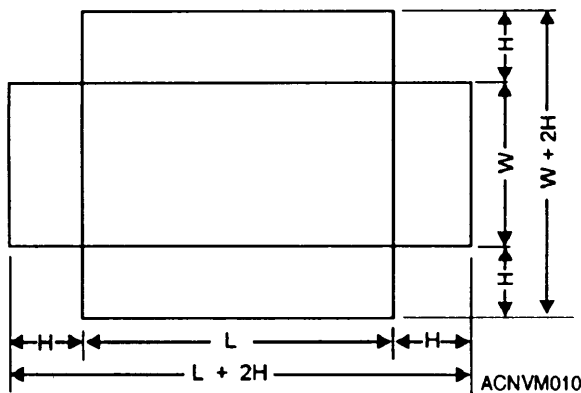
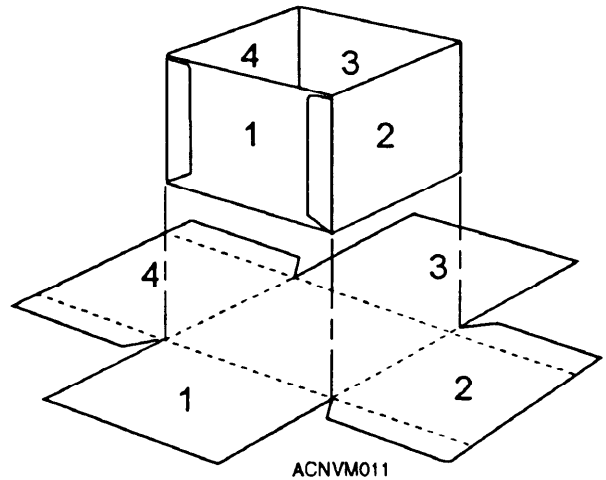

Figure 12-10.—Layout of a box or a drip pan.
Figure 12-11.—Layout of a box.
Break out your layout tools. Select a piece of sheet metal or template paper about 1 foot square. Lay out a pan, or box, similar to that shown in figure 12-10. Make the sides about 1 1/2 inches in height, and the bottom about 9 inches square. Don't forget the tab if you are going to join the seam by riveting. The angle for the notch of the tab is 45 degrees (fig. 12-11). If this notch
is not cut, you will have difficulty forming the side of the box. When you have the drip pan, or box, laid out, form the pan by breaking (bending) the side up 90 degrees. If you have made all of your measurements accurately, and have made your breaks on the line, the upper edge will be even all around, like the one shown in figure 12-11.
Step 4. Now lay out tabs like those shown in figure 12-11. Their size is determined by the diameter of the rivet, which in turn is determined by the thickness of the sheet. All that remains to be done now is to transfer the pattern to the sheet, cut the metal, and form it.